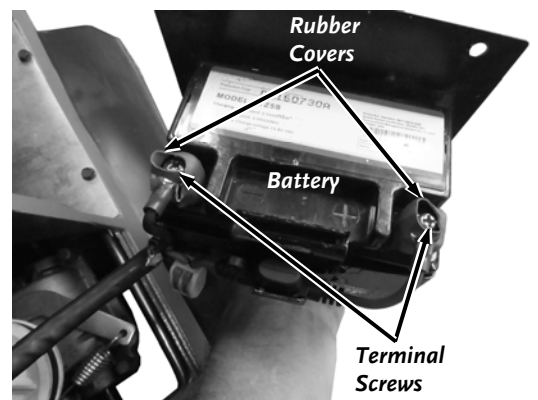

Figure 45
3. Secure the Positive (+) red Wire to the red Battery Terminal with the Screw and Nut using a Philips Head Screwdriver (**Figure 45**).